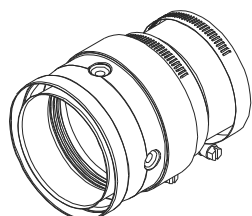

Fig 8 - Appliance Adapter (AA)
20. COMMON VENT SYSTEM PARTS AND THEIR INSTALLATION APPLIANCE ADAPTERS (AA)
The Appliance Adapter (AA) is used to connect the flue collar of the appliance to Model SPV vent system (see Fig. 8). The Appliance Adapter (AA) has two adjustable hose clamps on the inlet end to connect to the flue collar without the use of supplemental screws. Apply high temperature silicone sealant to the flue collar and slide the Adapter over the flue collar. Tighten the hose clamps, sealing the Adapter to the appliance.